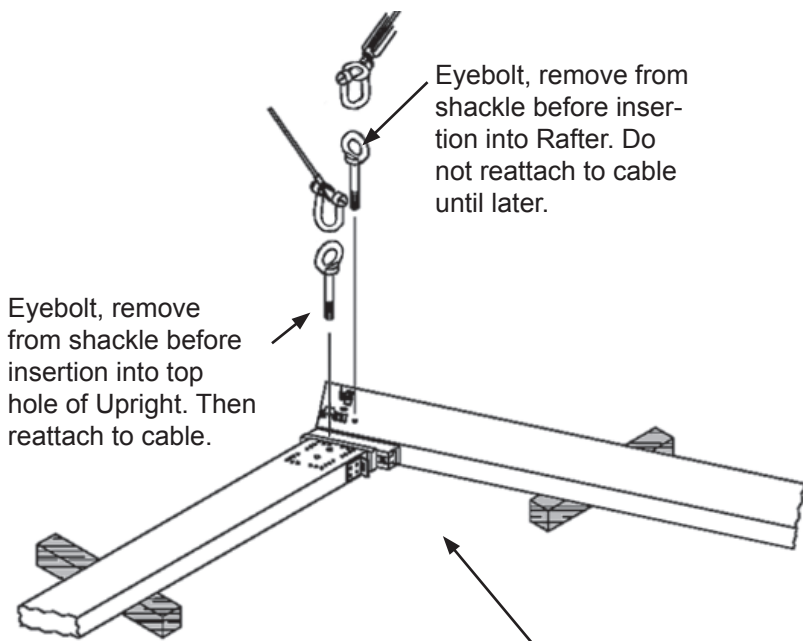

Figure 2.3a
- 2.3.1 Remove the Eye-bolt from the Upright Cable Assembly (unhook from shackle). At the Upright Assembly on both sides of the cabled bays, insert the eye-bolt into the top hole of the upright. **See Figure 2.3a.** At the End Arch (first arch) the Eye-Bolt must face toward the ground (toward the second arch when raised) and on the second arch the Eye-Bolt must face upward, away from the ground (toward the first arch when raised). At all uprights connect the Upright Cable Assembly (end opposite turn-buckle) to each Eye-Bolt using the shackle provided; typical of four locations. The turn-buckle end must remain free until the arches are raised.
- 2.3.2 Remove the Eye-bolt from the Roof Cable Assembly (unhook from shackle at turnbuckle end). At End of Rafter on both sides of the cabled bays, insert the Eye-Bolt into the outermost hole. **See Figure 2.3a.** At the End Arch (first arch) the Eye-Bolt must face toward the ground (toward the second arch when raised) and on the second arch the Eye-Bolt must face upward, away from the ground (toward the first arch when raised). Do not attach cable until later.